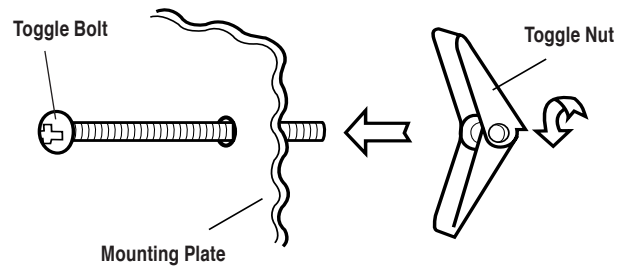

Figure 15
2. **IMPORTANT** Use the mounting template provided to Use wood screws to attach mounting plate to the stud or studs. Use Toggle Bolts to attach mounting plate through the holes at A, B, C and D UNLESS THOSE HOLES ARE LOCATED ON THE STUD. Insert one Toggle Bolt into A, B, C and D where appropriate (these correspond to holes of the Wall Template) and put the Toggle Nuts onto the Toggle Bolts. See Figure 15. Refer to instructions in Wall Template.